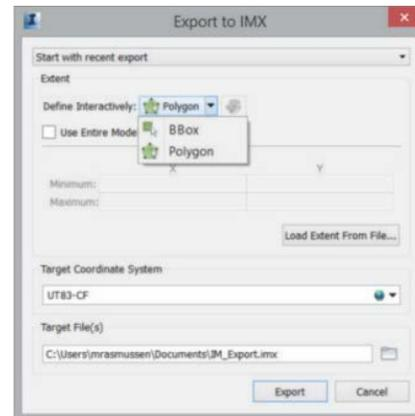

Figure 40
3. In the Export to IMX dialog box, set the model extents in the Defining Interactively drop-down list by selecting **BBox** or **Polygon** (as shown in Figure 40), or by selecting the **Use Entire Model** option.